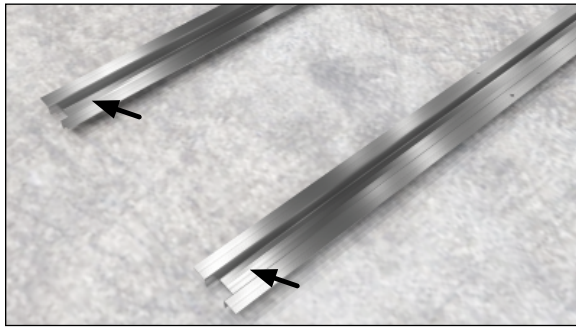

Fig. 3 Seismic anchoring locations (sled runners)
8. (SLED RUNNERS) If necessary, drill a hole in each end of every horizontal support (Fig. 3) and fasten to the floor with concrete anchors. **Note: The holes do not need to be in the exact locations specified here. Be sure that the**